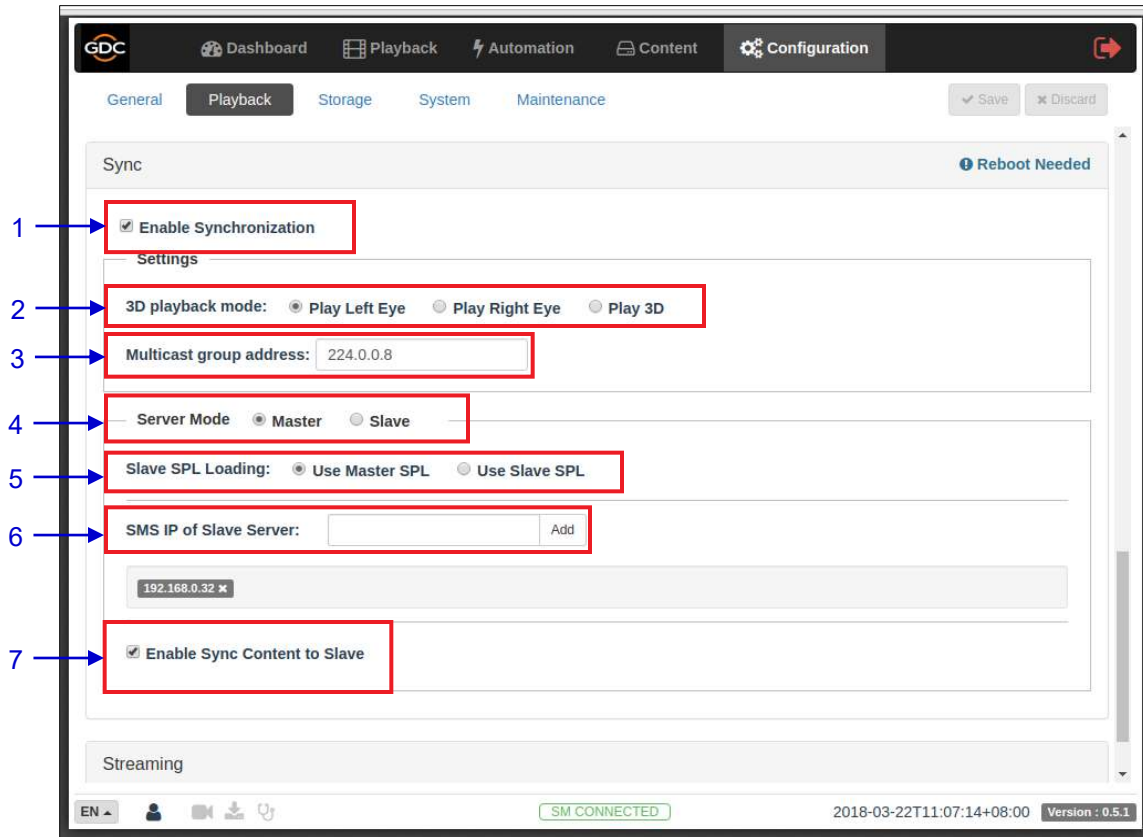

Figure 90: IMB Sync Configuration
2. Go to **Configuration** → **Playback** → **DTS:X Decoding** section and select 'Internal' from the drop-down, as shown in **Figure 90**.